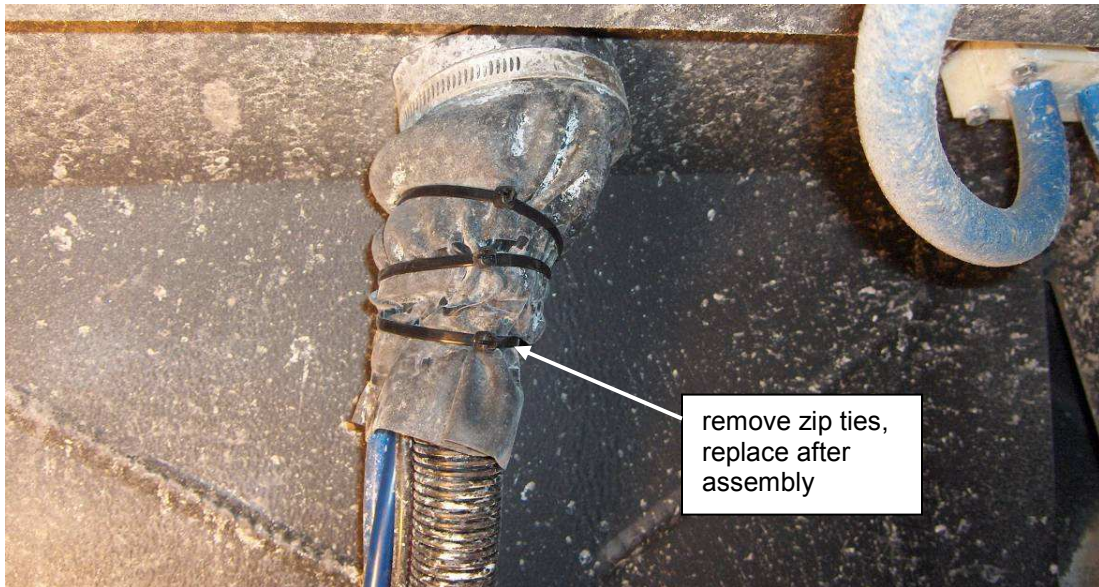

Figure 9 – Air Line Access Hole
13. Locate air line access hole underneath front suspension area of coach, remove zip ties as shown in Figure 9. **WARNING – MAKE SURE JACK STANDS ARE IN PLACE BEFORE ACCESSING THIS AREA.**